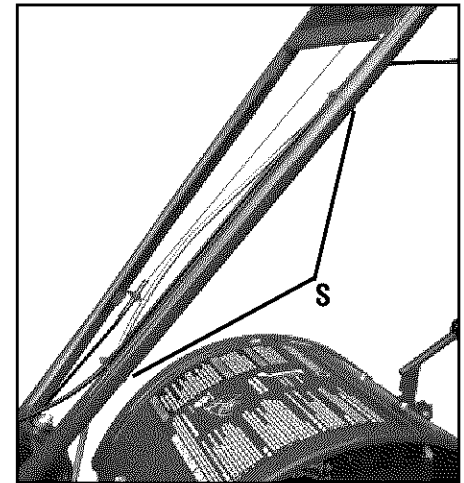

Figure 2-13: Attach wheel gear cable and reverse clutch cable with cable ties (S).
4. Secure the wheel gear cable and the reverse clutch control cable to the left-side handlebar with two plastic ties (S, Figure 2-13) located about two feet apart. Snip off any excess tie length with scissors.